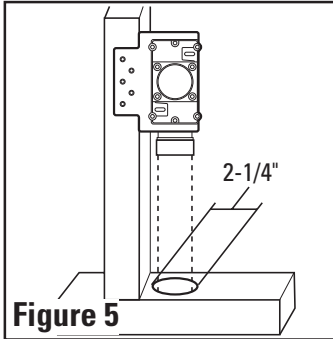

Figure 5
1. Cut a 2-1/2" diameter hole in the sole plate, header, or stud directly in line with the opening of the inlet fitting (**Figure 5**).